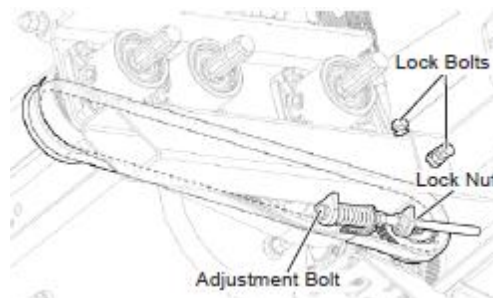

Figure 28
7. Retighten the lock nut and lock bolts when desired tension is achieved. Figure 28